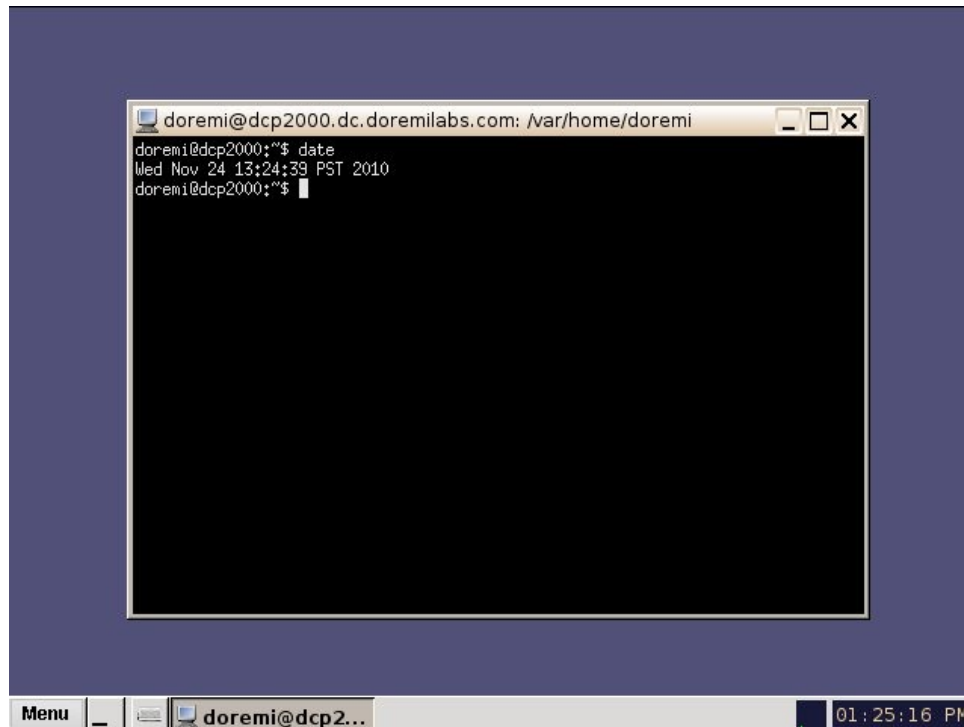

Figure 16: Terminal Window with Date Displayed
- The current date, time, and time zone will be displayed (Figure 16).